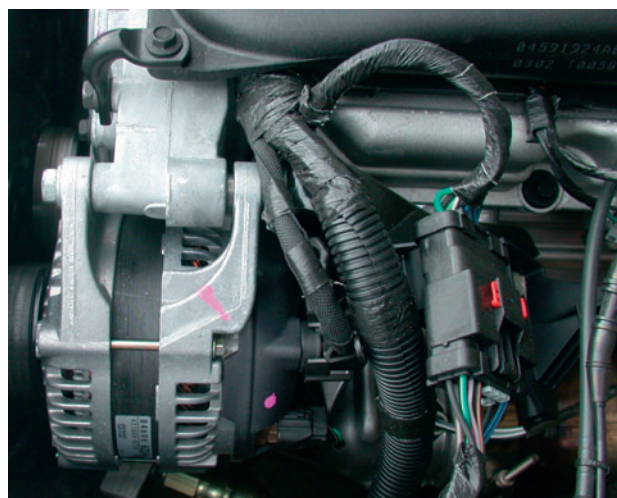

Figure 2.6 Electrical system
- ▶ If the ABS warning light stays on – look to see if the wheel speed sensor(s) are covered in mud or oil (Figure 2.6).